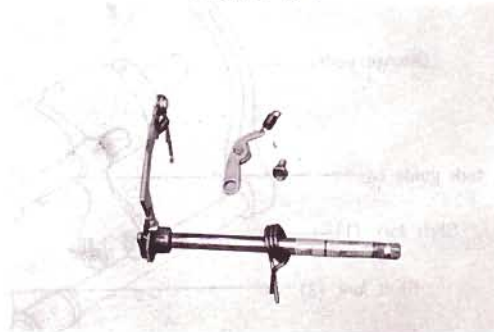

Fig. IV-12-4
B. Checking the gear shift parts (Fig. IV-12-4)